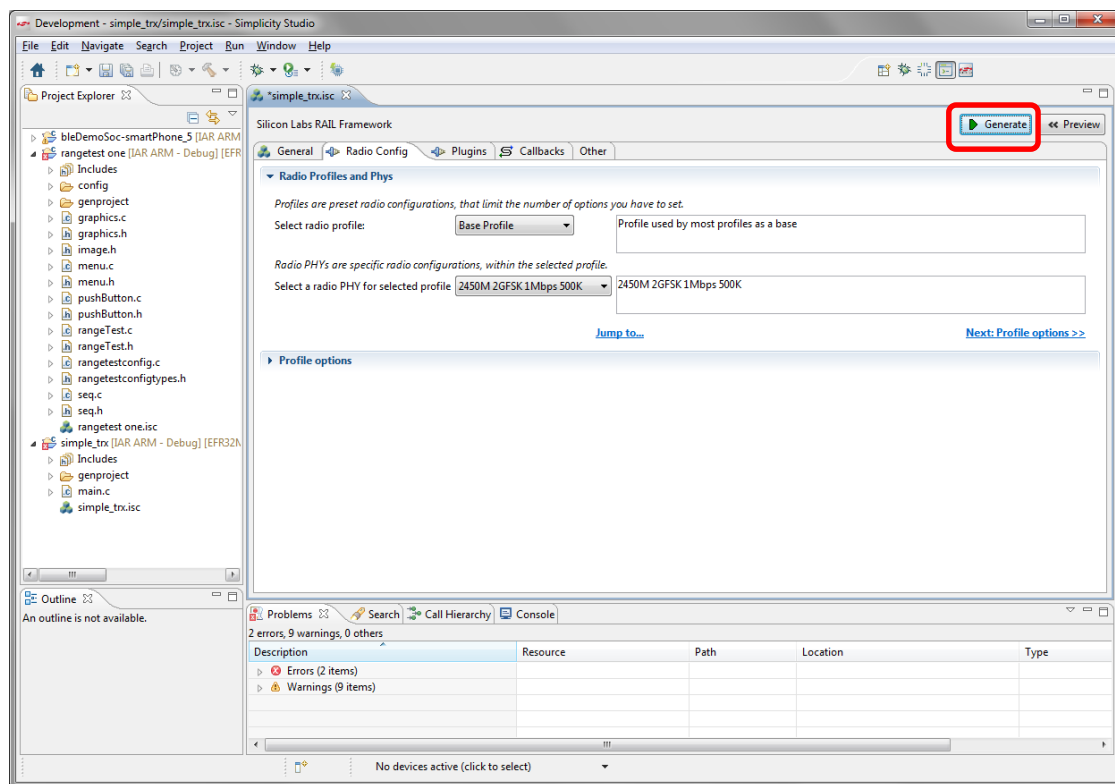

Figure 22. Generate Control
1. Once you have completed your Radio Configuration, click **[Generate]** in the upper right corner of the tab in order to generate all of the source and headers associated with your application into your project (Figure 22).